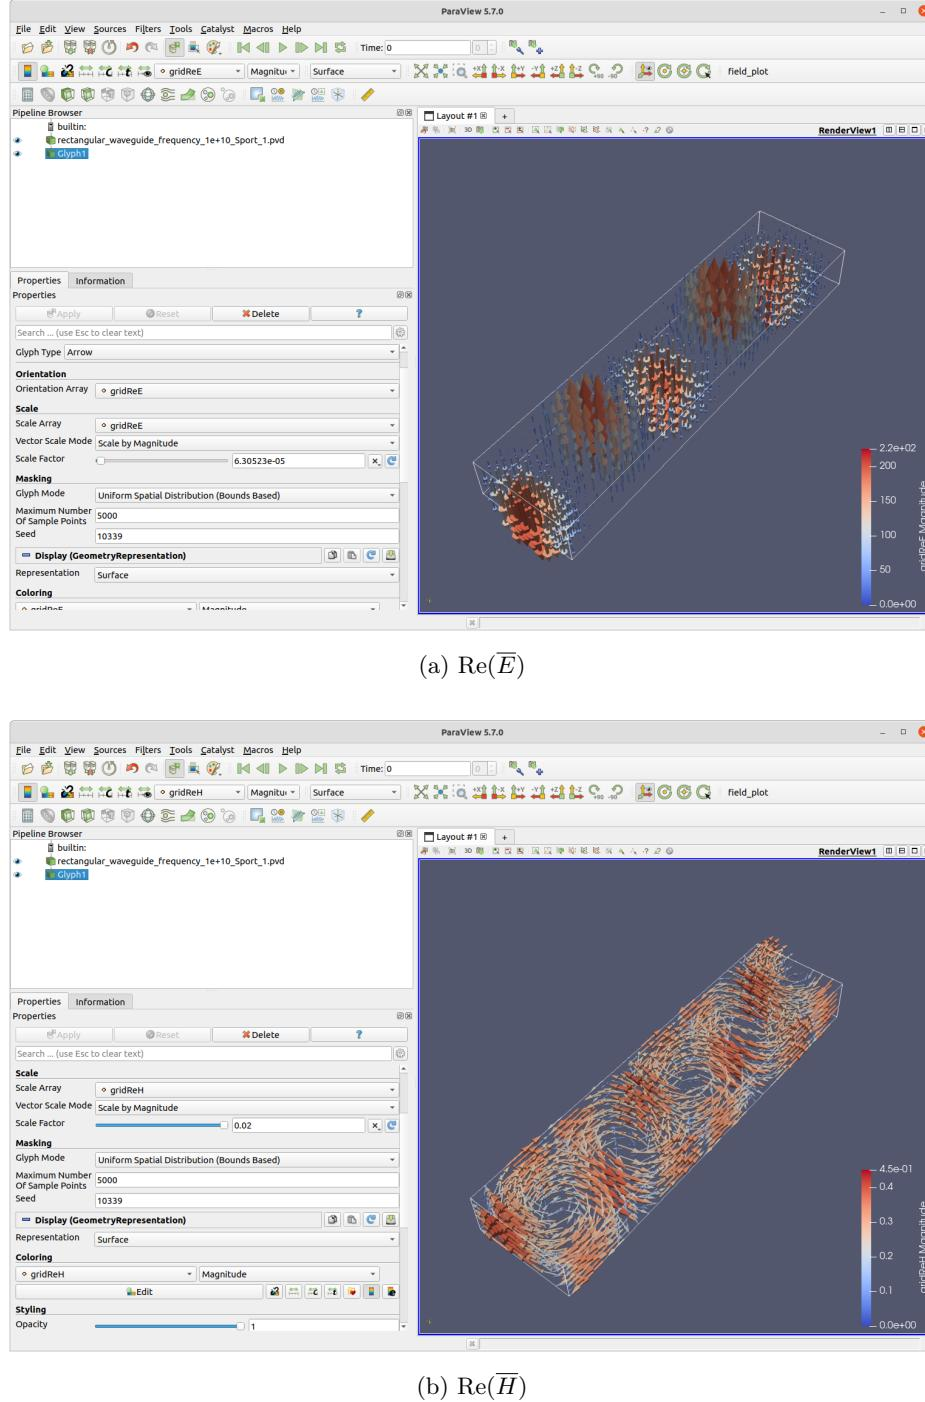

Figure 10: Vector fields for the rectangular waveguide when driven by port 1.
- Screenshots for  $\bar{E}$  and  $\bar{H}$  are shown in Fig. 10.